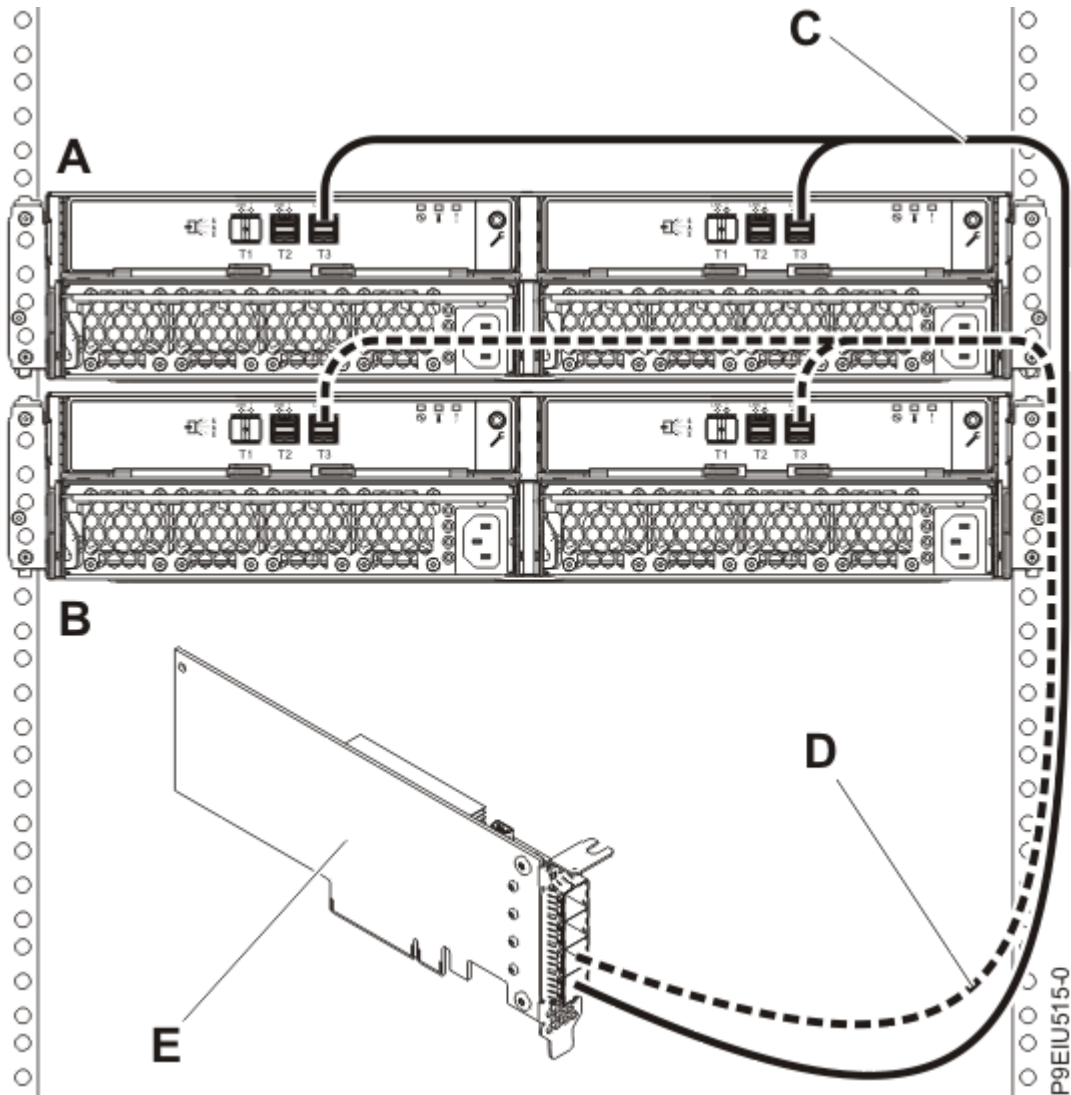

Figure 14. Mode 1 connection of two ESLL or ESLS storage enclosures by using YO12 cables to a single FC E30J, FC E30K, or FC E30M SAS adapter
14. Then, complete a mode 1 connection of two enclosures (**A and B**) by using YO12 cables (**C and D**) to a single FC EJ0J, FC EJ0K, or FC EJ0M SAS adapter (**E**), as shown in Figure 14 on page 19, and then continue with “Connecting cables, power cords, and installing covers” on page 29.